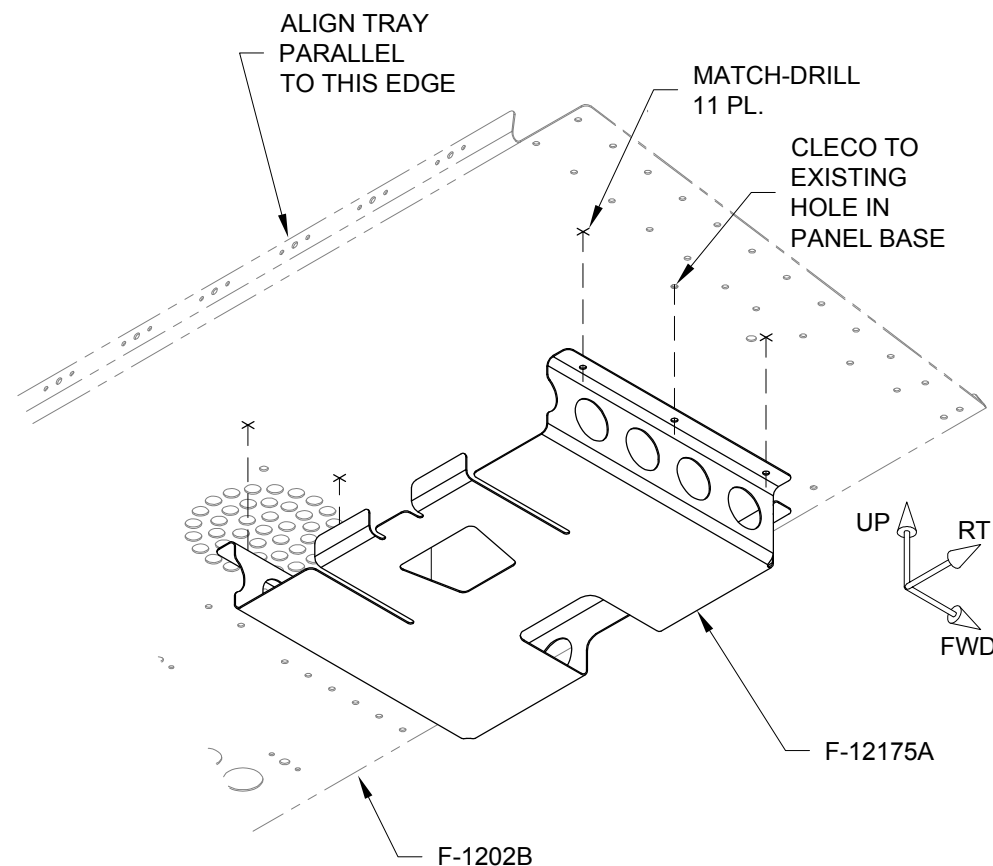

FIGURE 2: MATCH DRILL PANEL BASE
Step 3: Cleco the F-12175A Tray to the underside of the F-1202B Panel Base at the one location shown in Figure 2.